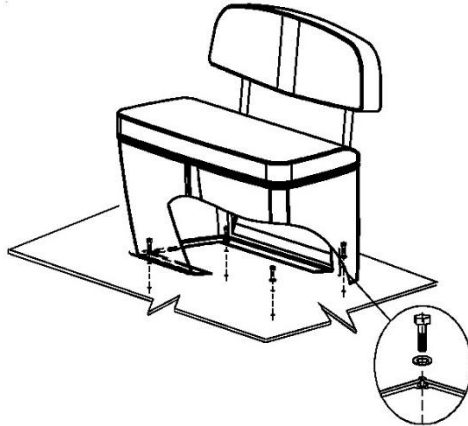

Fig. 9. Installation of container.
- Fix container to the deck by means of bolts M8*25 and toothed lock washer (fig. 9).